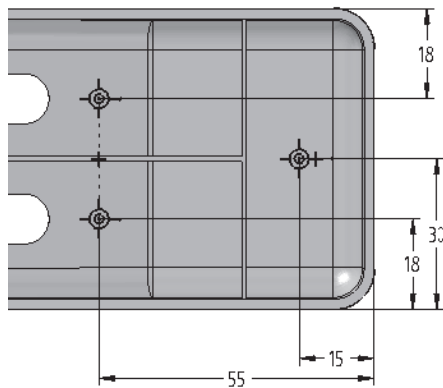

Figure 8-63 Partial view of the model with the profiles for mounting bosses
5. Place three instances of the mounting boss profiles and then add the required dimensions, as shown in Figure 8-63. It is recommended that you select the edge of the model as the first entity and the mounting boss profile as the second entity to add the dimension.